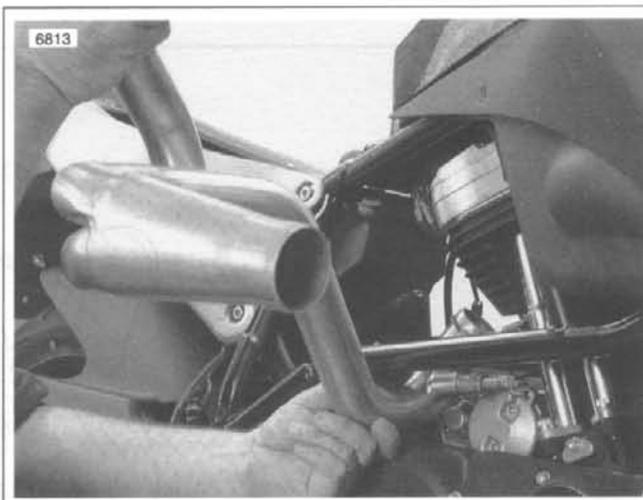

Figure 2-142. Exhaust Header Positioning
4. See Figure 2-142. Remove exhaust header by swiveling and lifting exhaust header as shown. Slide exhaust header from behind frame.
2. Slide exhaust header clamps (3) over ends of exhaust header (1).
3. See Figure 2-142. Slide exhaust header under frame by positioning as shown, threading oxygen sensor wire under frame.